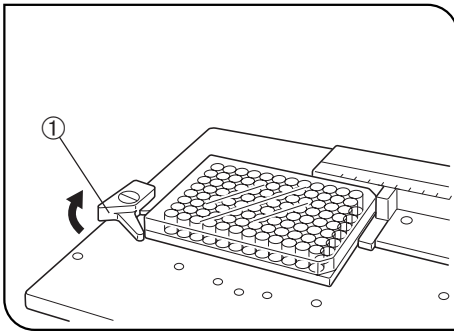

Fig. 14
With the IX-MVR Mechanical Stage + IX2-SP Stage (Figs. 14 & 15)
1. Open the spring-loaded finger of the specimen holder ① and slide the microtiter plate into the holder frame. Gently release the curved finger to clamp. (Fig. 14)